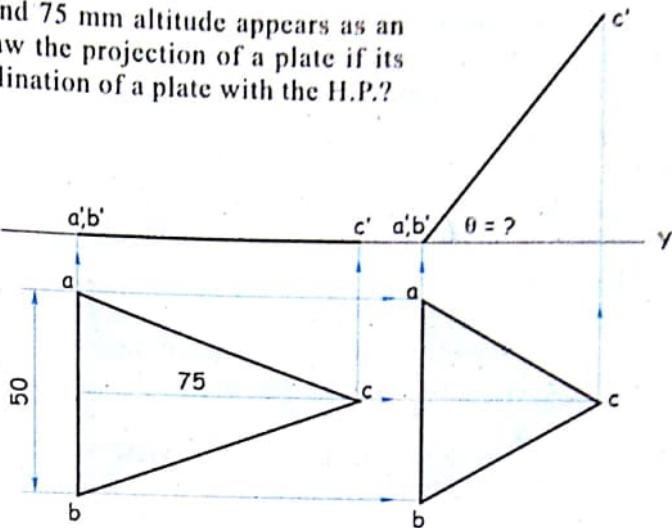

FIG. 9.17
**Solution :** Refer figure 9.17.